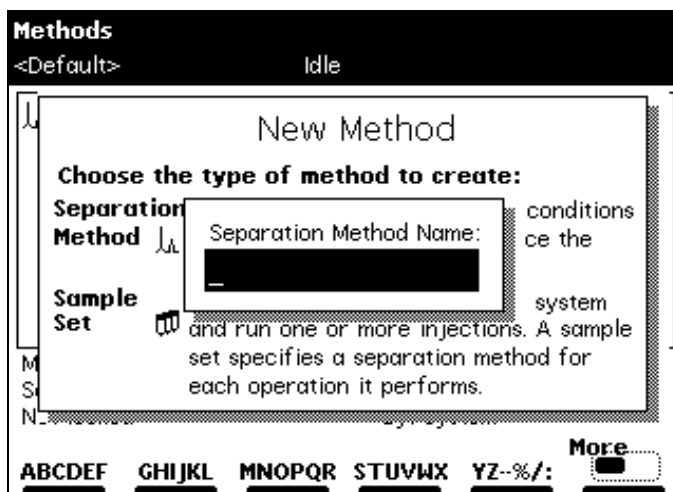

Figure 5-3 Separation Method Name Dialog Box
3. Press the chromatogram icon (separation method) screen key. The Separation Method Name dialog box appears (Figure 5-3).